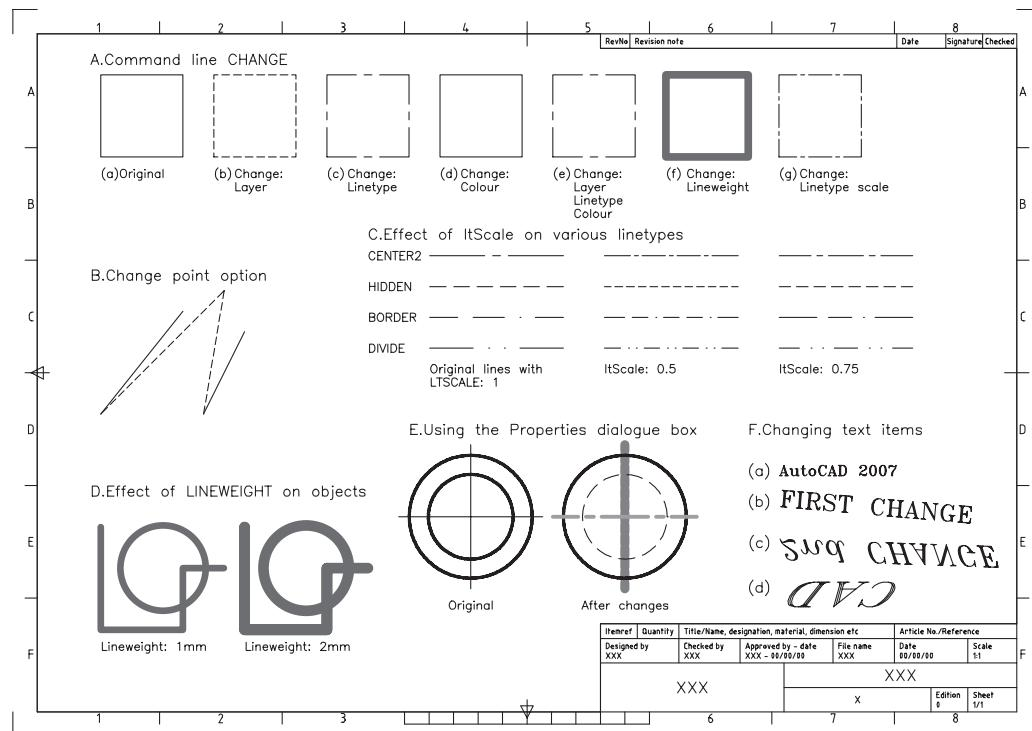

Figure 23.1 Changing object properties exercise.
- 1 Open A3PAPER with layer OUT current, toolbars to suit and refer to Figure 23.1.
- 4 The two lines are redrawn to this point – Figure 23.1(B).
- 7 This effect is shown in Figure 23.1(C) using the Centre2, Hidden, Border and Divide linetypes.